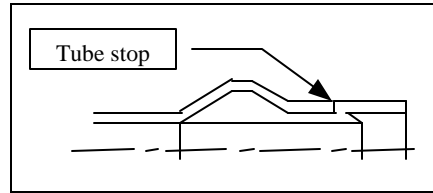

Fig. 19. Completion of press-fitting
- Remove the flare part from the sleeve holder and then move the lever forward again until the tube is inserted to the stop (see Fig. 19).